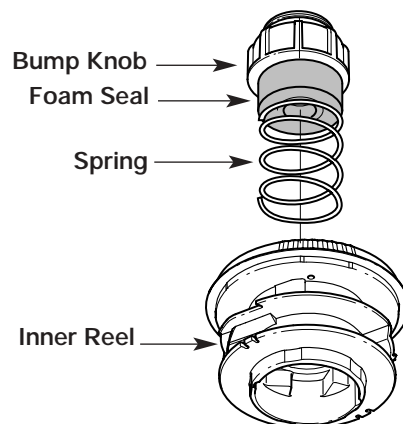

Fig. 47
1. Turn the bump knob counterclockwise and remove the bump knob, spring and foam seal (Fig. 47).
4. Hold the inner reel in place and install the bump knob, spring and foam seal (Fig. 47). Press down and turn the bump knob clockwise. Grasp the ends and pull firmly to release the line from the holding slots in the inner reel.
2. Pull out the bump knob, spring and foam seal (Fig. 47).
7. Place the bump knob, spring and foam seal into the inner reel (Fig. 47).